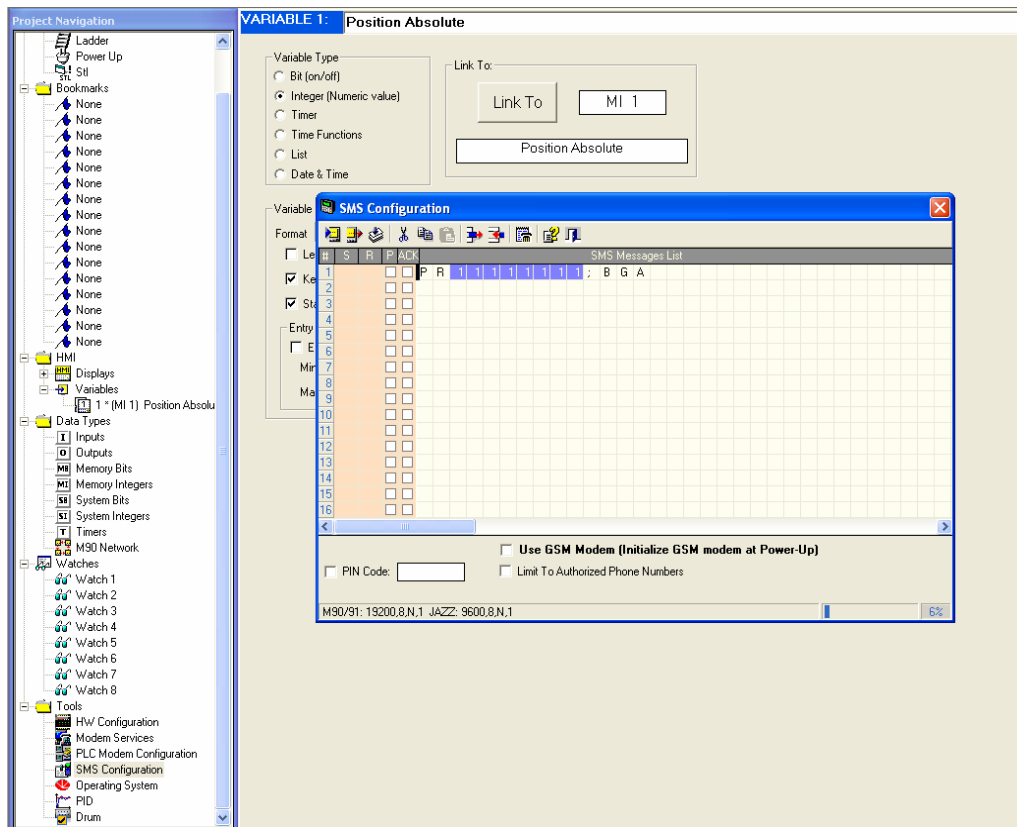

Figure 7: Screen shot of the SMS configuration window, and the built message.
4) Next, set up the SMS message which will send the ASCII string out of the serial port to the controller. This can be done by clicking 'SMS Configuration' in the Project Navigation tree in the 'Tools' folder. The following window will appear as in Figure 7.